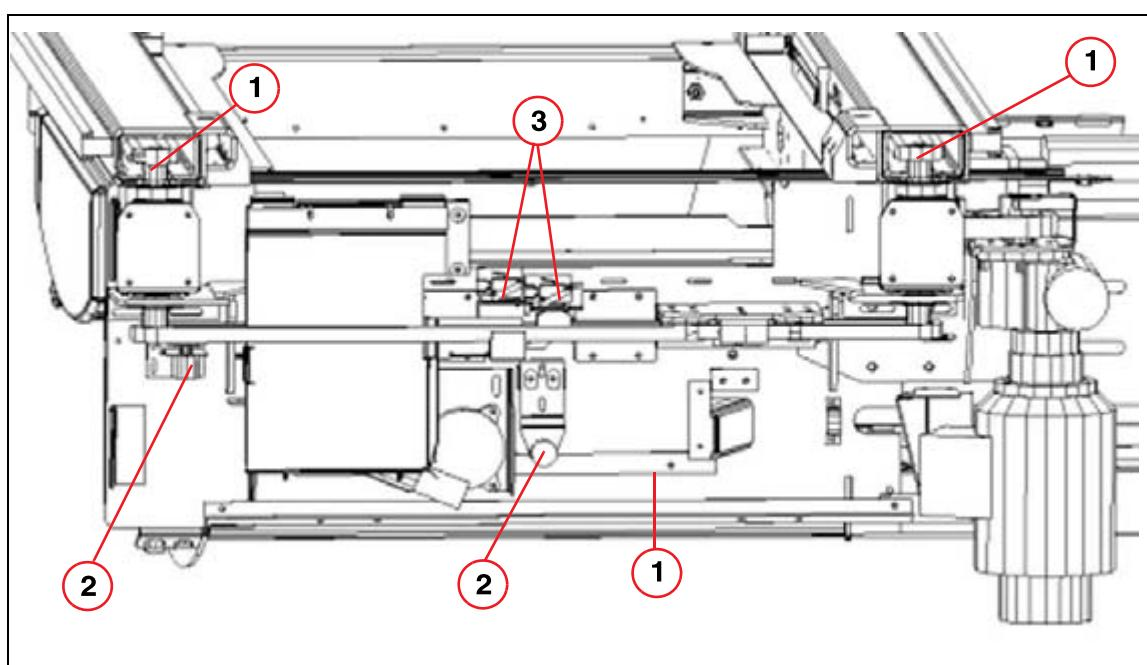
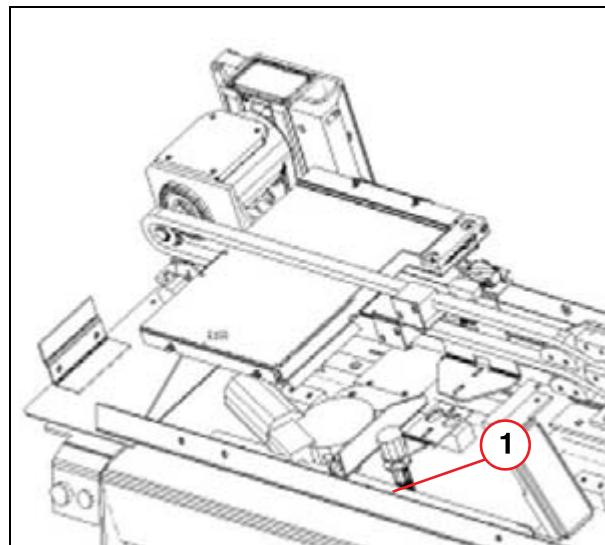

Fig. 3: Unit carrier
Fig. 4: Unit carrier, bottom view
- Clean all accessible locations of the pinions and chains (1/Fig. 3 / p. 20) and (1/Fig. 4 / p. 21) and grease them lightly with PD 2. Check the potentiometers for mechanical play (2/Fig. 3 / p. 20).
- Check all limit switches (3/Fig. 3 / p. 20).